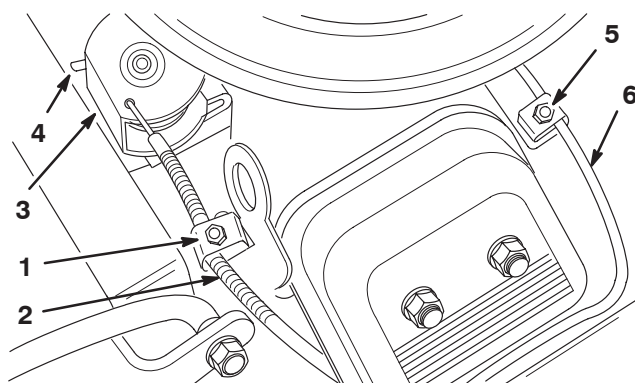

Figure 20
2. Loosen the cable clamp screw securing the cable to the engine (Fig. 20).
4. Pull firmly on the throttle cable until the back of the swivel contacts the stop (Fig. 20).
4. Pull firmly on the choke cable (Fig. 20) until the choke butterfly is completely closed; then tighten the cable clamp screw.